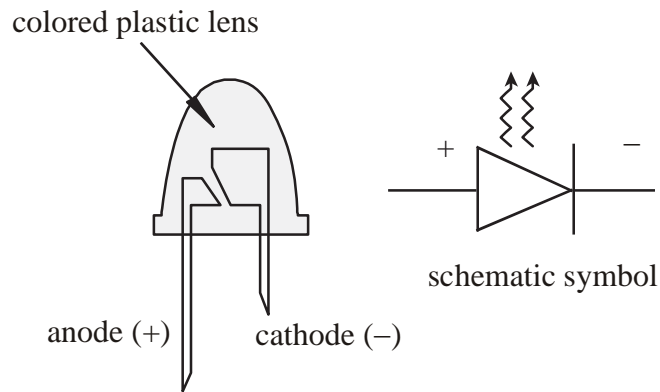

Figure 4.7 LED
- (2) Examine the silicon diode and LED. Decide which lead is the anode and which is the cathode. As shown in the Figure 4.7, the anode lead on an LED is longer. If using the HP 34401A DMM, select the diode test function ($\rightarrow|$) and determine if the leads are identified properly. You will notice that the diode test does not work properly for the LED. This is because the LED voltage drop is larger than the expected range for a silicon diode (0.3 V to 0.8 V). However, you should see the LED light up when properly biased by the DMM. Write down the measured voltage drop across the silicon diode.